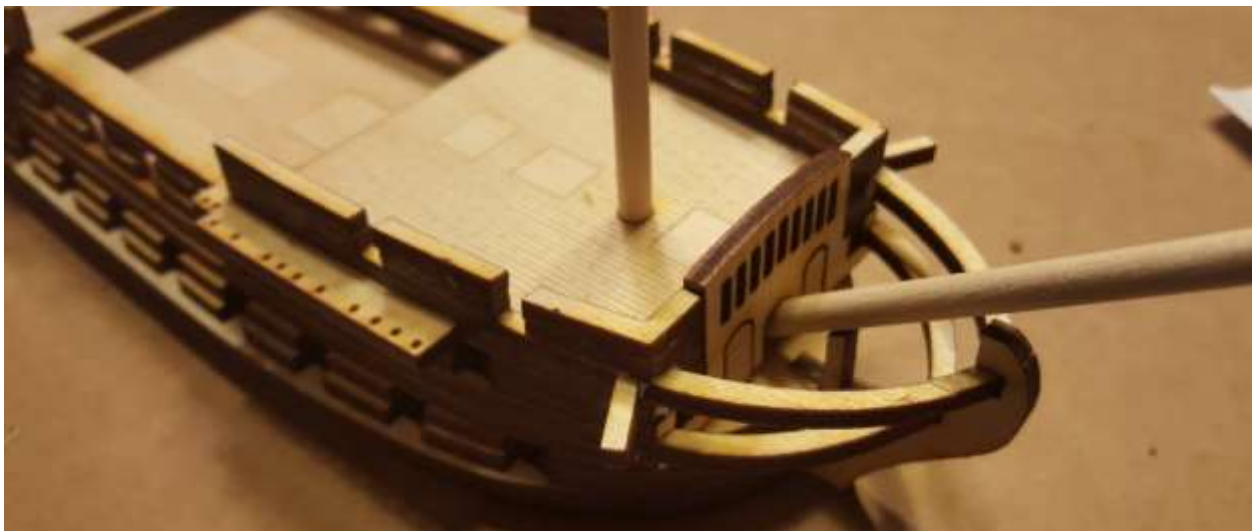

Figure 6
Now move back up to the prow of the ship. Start by gluing the fore cabin front wall (part 34) into place as shown in figure 6 below. The etching should be facing forward. Next, glue parts (24) onto either side of the fore deck to extend the sidewalls from the front railing. Follow this with a second and third layer using (parts 25, 26, and 27). Finally add the bowsprit railing using (part 65) in the lower slot and (part 66) in the upper slot as shown in Figure 6.
Finally, move forward to the bowsprit. Glue the bowsprit into the slot formed by the Fore Cabin Part 34 and resting on the support of the prow (part 7) as shown in figure 6. Let this dry. Next slide parts 54 and then 55 down the bowsprit about an inch and a quarter inch respectively so that the extra hole is facing down. Insert the flying jib boom into the lower hole in parts 54 and 55 so that it extends forward. Slide part 56 down over the flying jib boom. Finally attach the bowsprit yard and flying jib yard into place against their supports (parts 55 and 56.)